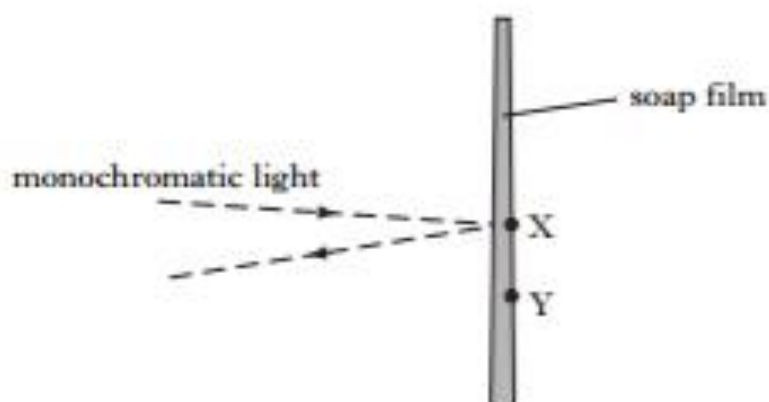

Figure 9C
- (i) The 488 nm laser is replaced with a 667 nm laser. Which interference pattern from Figure 9C best represents the new interference pattern? Justify your answer. 2
Which pattern from Figure 9C best represents the new pattern?
An expanded view of part of the film is shown in Figure 9C.